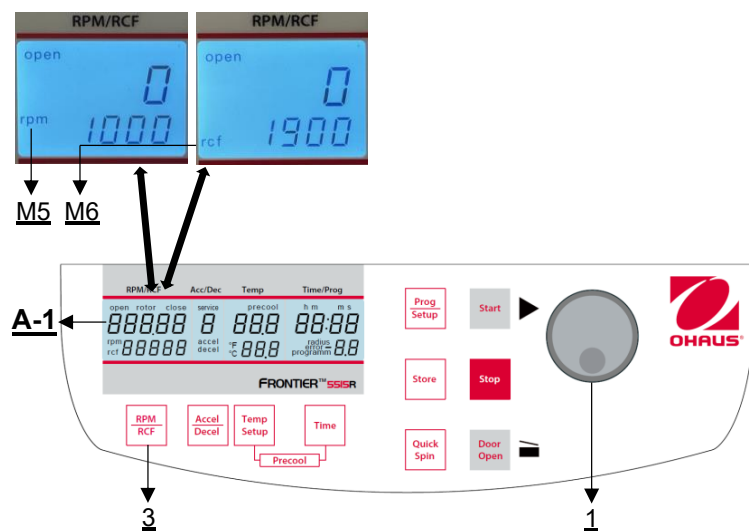

Figure 15
The pre-selection is activated through the key **"RPM | RCF"** (3) (refer to Figure 15). By pressing the key once the word **"rpm"** (M5) flashes. By pressing the key twice, the pre-selection of the centrifugal forces can be selected. Then the flashing word **"rcf"** (M6) appears. You can set the desired values with the adjusting knob (1). In the display (A-1) the regulated value is shown permanently, before, during and after the run.